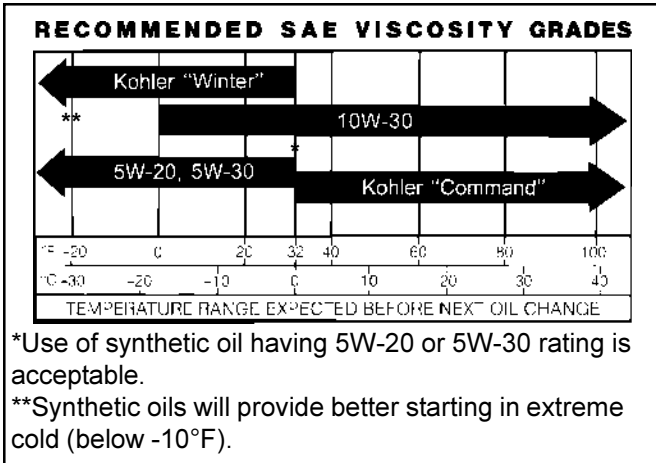

Figure 2. Viscosity Grades Table.
1. Be sure to use the proper oil for the temperature expected. See Figure 2 on page 4.
For an overhauled engine or those rebuilt with a new short block, use **10W-30 – weight** service class SG, SH, SJ or higher oil for the first **hour** of operation. Change the oil after this initial run-in period. Refill with service class SG, SH, SJ or higher oil as specified in the "Viscosity Grades" table (Figure 2) on page 4.